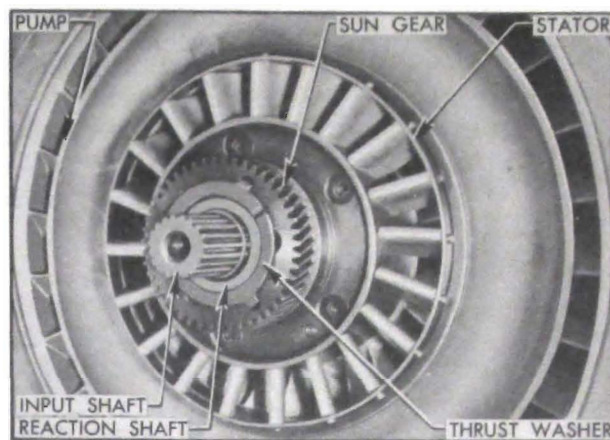

Figure 5-26—Sun Gear, Stator, and Converter Pump
5. Turn the sun gear clockwise to make sure it free wheels, then turn it counterclockwise to make sure it locks in this direction. Remove sun gear assembly with thrust washer from reaction shaft. See figure 5-26.